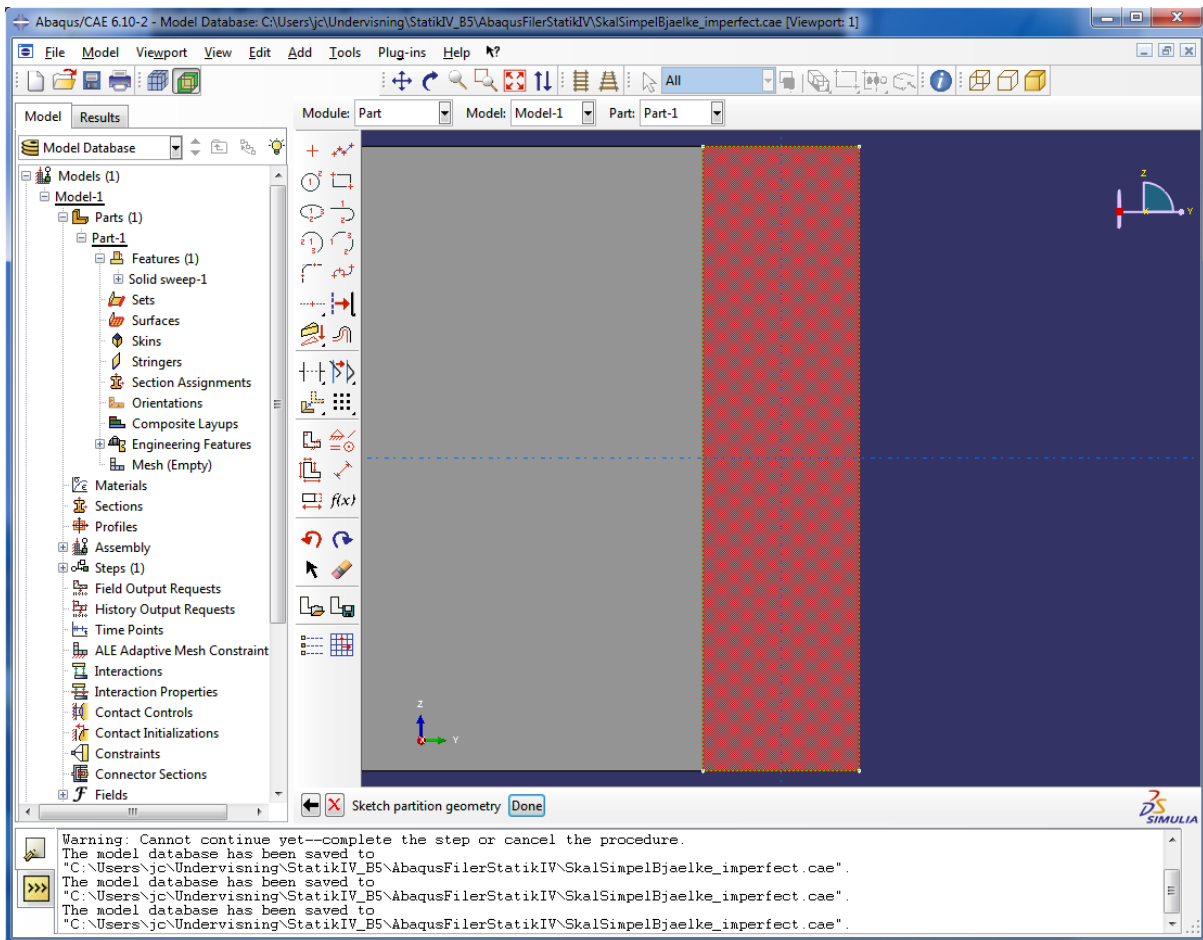

Figure 4. Ready to partition the beam en face.
- b. Select one of the long edges of the highlighted rectangle. You should now see a screen resembling Figure 4
- d. Select the midpoints of the two short edges (the top and bottom edge in Figure 4). Hit Esc and press **Done**, and then **Done** again.